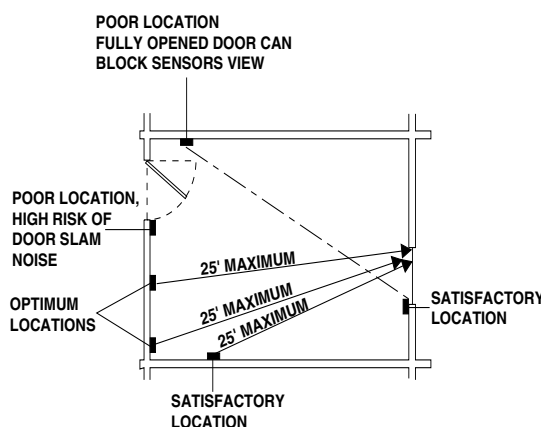

Figure 1. Sensor Mounting Locations
- Mount the sensor within 25 feet of the glass to be protected (see Figure 1).
- Do not mount the sensor near doors and windows that can be slammed (see Figure 1).
- Do not mount the sensor where a door can be closed between the sensor and the glass or where an open door may obstruct sensor line-of-sight (see Figure 1).